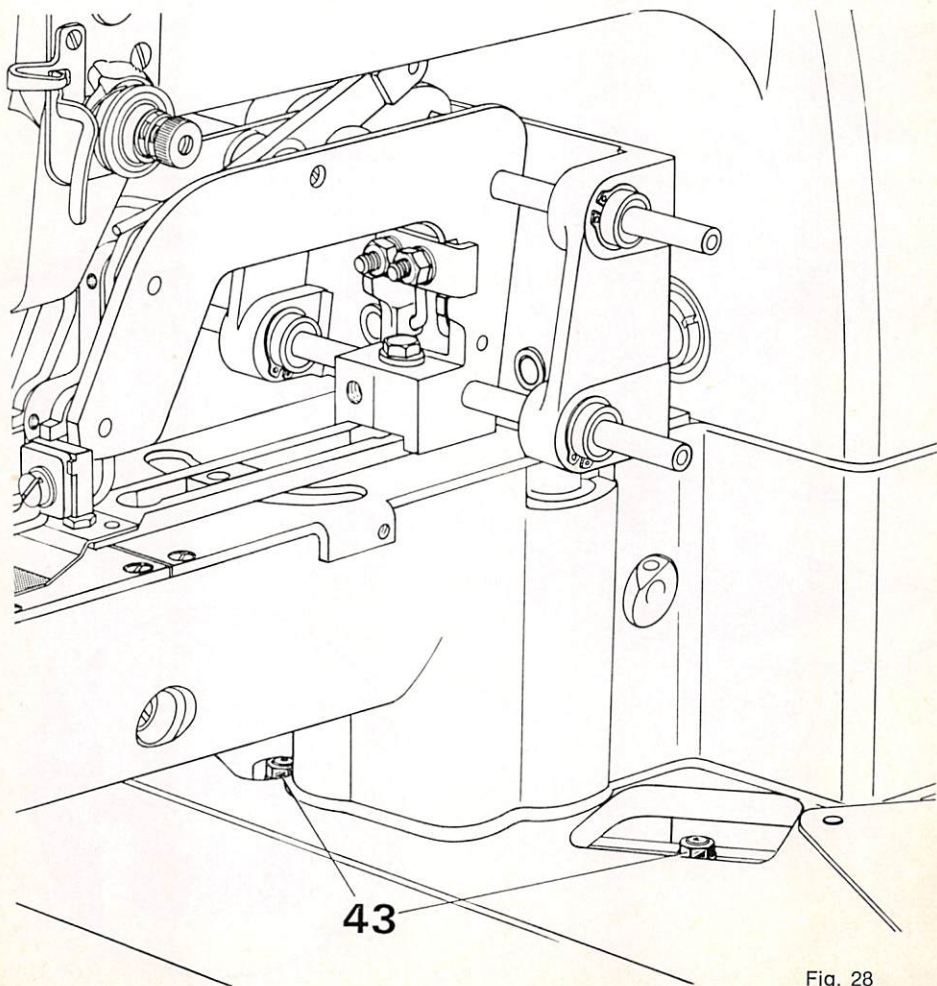

Fig. 28
**28. Setting the machine for its largest tack size (Fig. 28)**